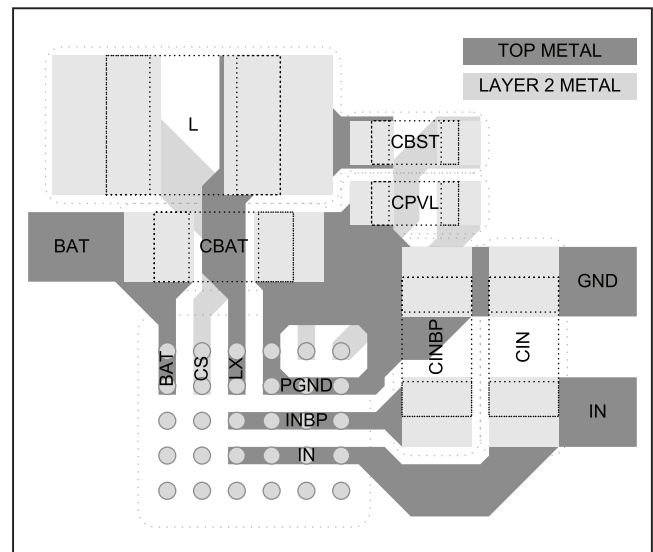
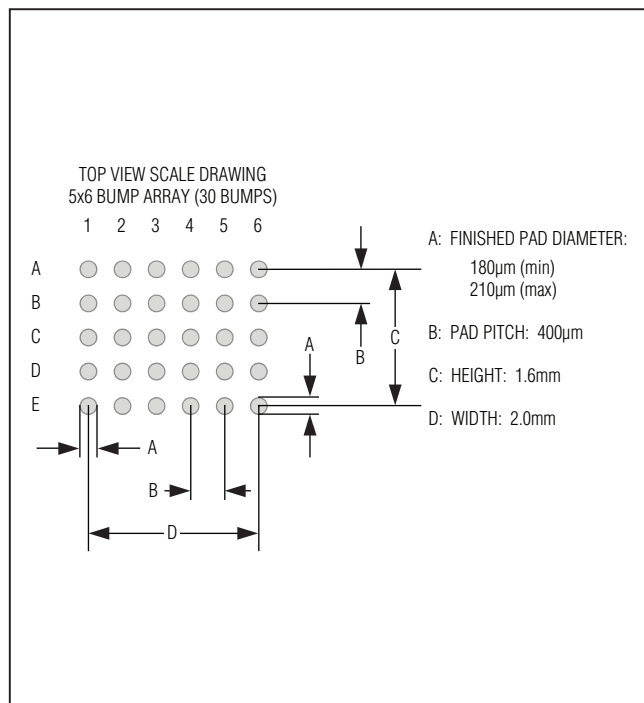
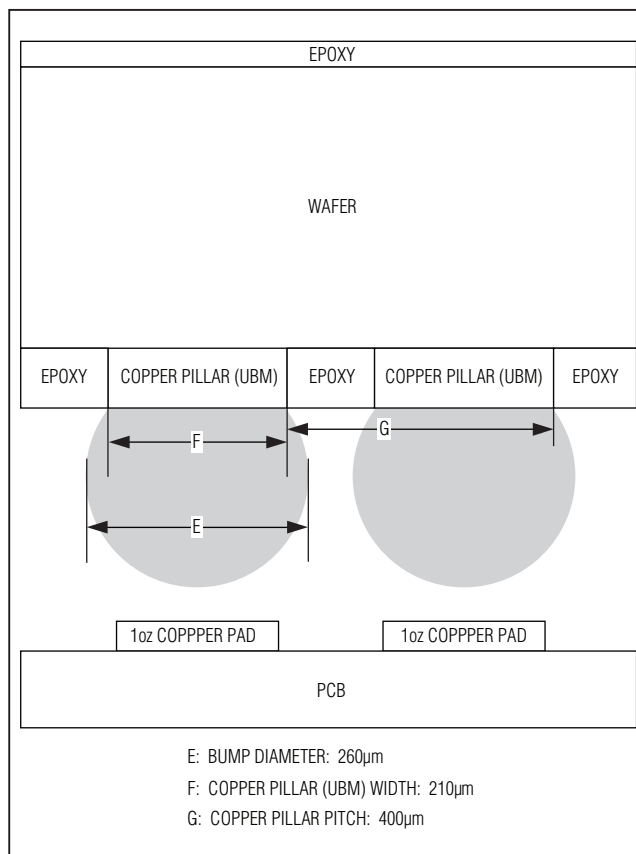

Figure 14. Power PCB Layout Example
Figure 15. Recommended Land Pattern
Figure 16. Bump Cross Section and Copper Pillar Detail
Figure 15 shows the recommended land pattern for the MAX8900_. Figure 16 shows the cross section of the MAX8900_'s bump with detail of the under-bump metal (UBM). The diameter of each pad in the land pattern is close to the diameter of the UBM. This land pattern to UBM relationship is important to get the proper reflow of each solder bump.
Careful printed circuit layout is important for minimizing ground bounce and noise. Figure 14 is an example layout of the critical power components for the MAX8900_. The arrangement of the components that are not shown in Figure 14 is less critical. Refer to the MAX8900 Evaluation Kit for a complete PCB layout example. Use the following
- 5) In Figure 14, the CS node is connected to the second layer of metal with vias. Use low-impedance vias that are capable of handling 1.5A of current. Also, keep the routing inductor current path on layer 2 just underneath the inductor current path on layer 1 to minimize impedance.
- 6) Both C_{BST} and C_{PVL} deliver current pulses for the MAX8900's MOSFET drivers. These components should be placed as shown in Figure 14 to minimize parasitic impedance.
In Figure 14, many of the top layer bump pads are connected together in top metal. When connecting bumps together with top layer metal, the solder mask must define the pads from $180\mu m$ to $210\mu m$ as shown in Figure 15. When using solder mask defined pads, please double check the solder mask openings on the PCB Gerber files before ordering boards as some PCB layout tools have configuration settings that automatically oversize solder mask openings. Also, explain in the PCB fabrication notes that the solder mask is not to be modified. Occasionally, optimization tools are used at the PCB fabrication house that modify solder masks. Layouts that do not use solder mask defined pads are possible. When using these layouts, adhere to the recommendations A through G above.